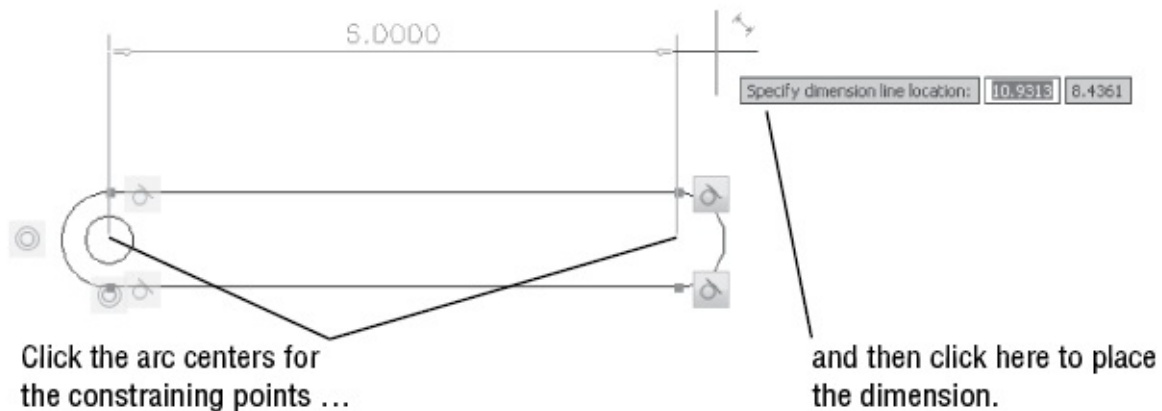

FIGURE 16.12 Adding the dimensional constraint
5. Click the arc on the right side of the drawing (see Figure 16.12).
6. Click a location above the drawing, as shown in Figure 16.12.